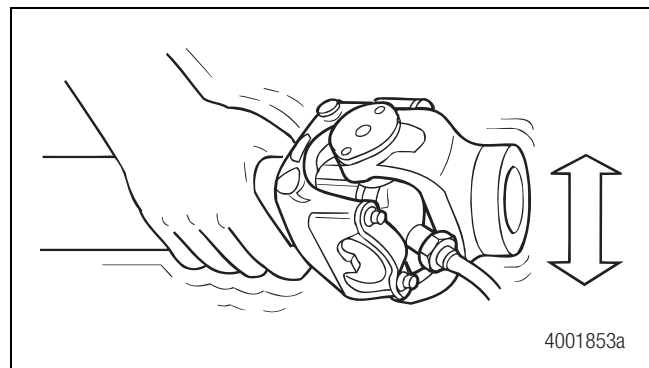

Figure 7.7
- Move the assembly UP-AND-DOWN or SIDE-TO-SIDE while you apply grease gun pressure. Figure 7.7.